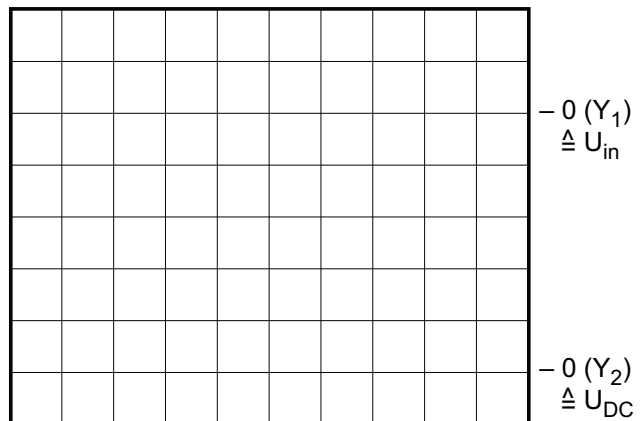

Fig. 1.3.2.3
- Plot the curve of input voltage U_{in} and of DC voltage U_{DC} which results using the smoothing capacitor $10 \mu F$ on the grid of Fig. 1.3.2.3.